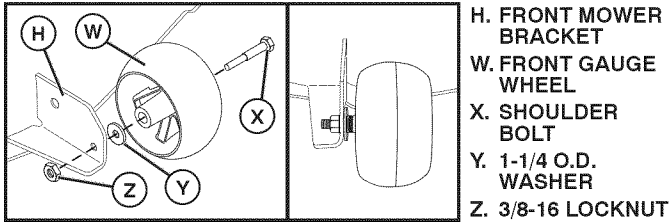

Fig. 26
2. ASSEMBLE FRONT GAUGE WHEEL (W) TO FRONT OF MOWER (See Fig. 26)